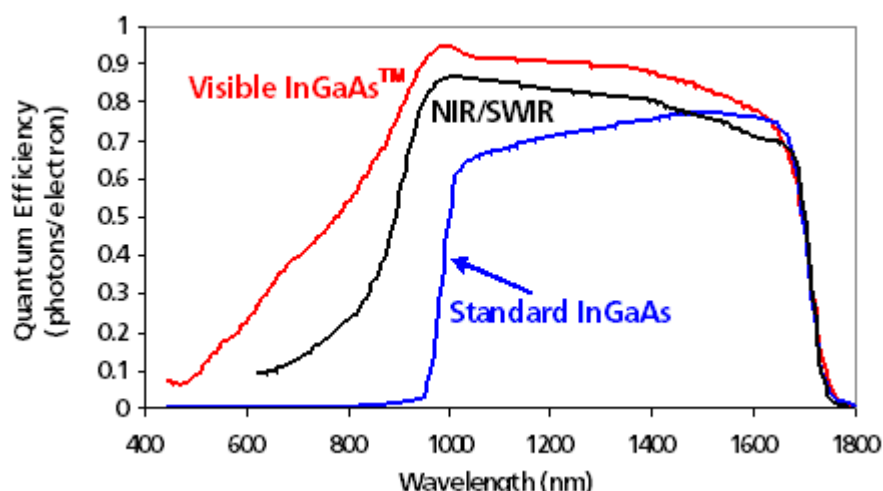
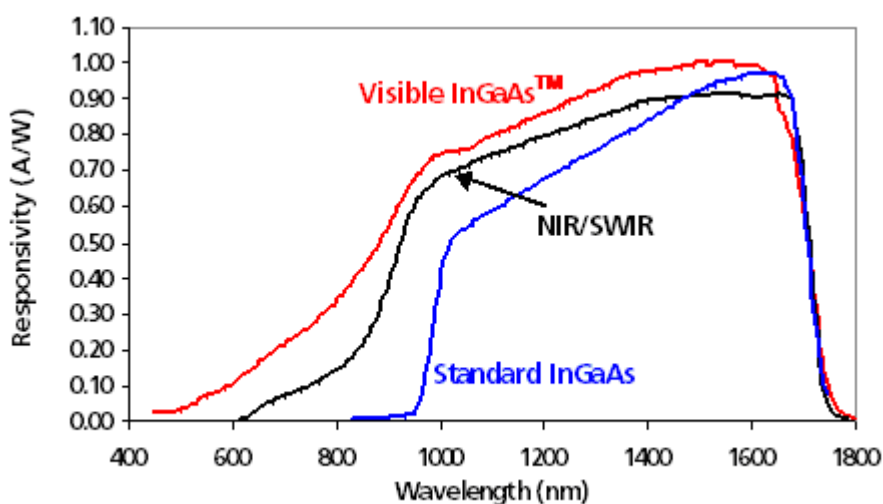

Figure 5. Typical quantum efficiency of SUI backside illuminated FPAs.
Figure 6. Typical responsivity of SUI backside illuminated FPAs.
The SUI KTS camera family use the SUI SU320AB3-1.7T1 and SU640AB2-1.7T1 indium gallium arsenide (InGaAs) focal plane arrays (FPAs). These FPAs have 320 x 256 pixels and 640 x 512 pixels, respectively, on a 25 μm pitch. The FPAs consist of an InGaAs photodiode array hybridized to a CMOS readout using indium bump bonds. The photodiode array is a backside illuminated device (where light first passes through the substrate before being absorbed) with typical quantum efficiency (QE) and responsivity shown in Figure 5 and Figure 6, respectively. For visible InGaAs, the substrate is thinned to allow shorter wavelength light to reach the light sensitive region of the photodiode.